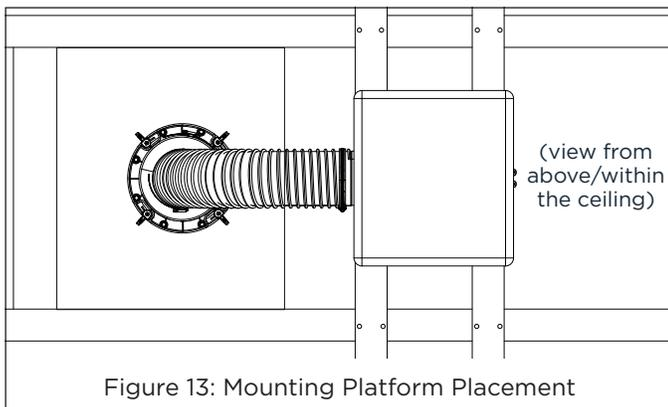

Figure 13: Mounting Platform Placement
2. Secure the mounting platform to the joists and verify that the pipe tube will bend and reach through the platform opening (see Figure 13).